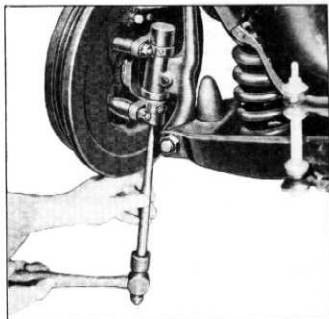

Fig. 27—Removing Kingpin Upper Bearing Plug
4. Remove the kingpin bearing plugs. This can be done with a sharp drift punch by driving through the lower plug and forcing the kingpin upward until the upper plug is removed (fig. 27). The kingpin may then be removed by driving it out the bottom using a soft steel drift.